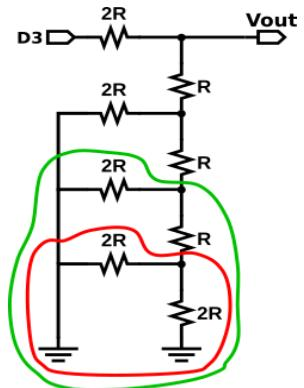

Figure 2: Start by setting D03 to  $V_{CC}$ , and the other digital inputs to ground. Analyze the subcircuit in red.
a) In this case we will start by grounding D0 – D2. This gives us the red circled circuit in Figure 2.
- c) Next with your new circuit, do the same with the part of the circuit in green in Figure 2. Draw the equivalent circuit below.